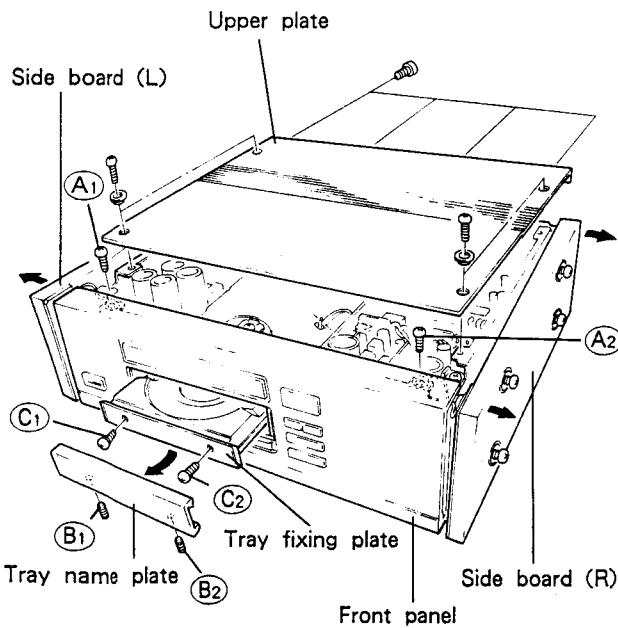

Fig. 2-1.
1. Keep the side boards (L) and (R) apart from the upper plate by loosening the screws ((L, 4) (R, 4)) fixing them. (Be sure not to remove yet since the lead wire for ground is attached to the side sash on the side board (L) and (R).)
3. Remove the screws **A₁** and **A₂** fixing the ground lead wire for side sash. (Refer to Fig. 2-1.)
4. Remove the side boards (L) and (R).